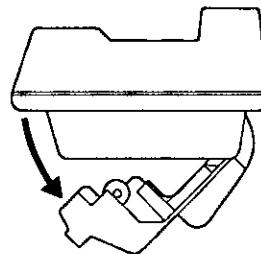

Fig. 1
1 Press "PUSH OPEN" and open the door. (Fig. 1)
3. Cut the paper as shown in Fig. 1.